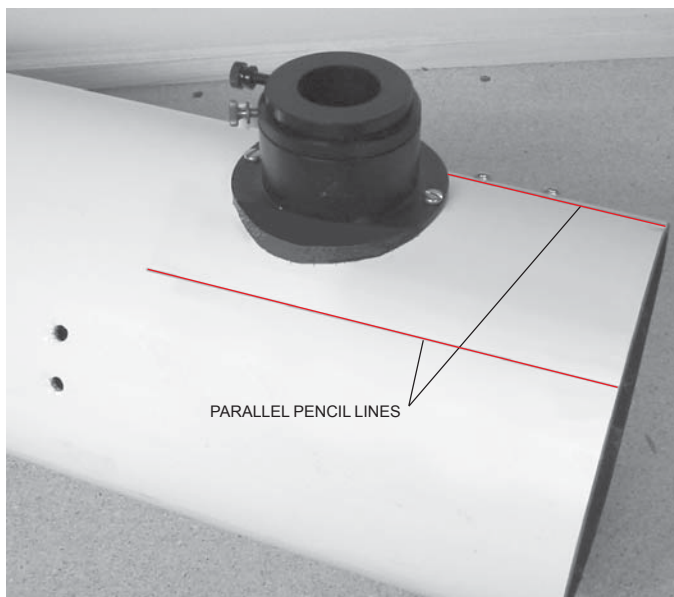

Figure 3
Step 2 **Mark the bracket centerlines on the tube.** Using a straight edge, draw two pencil lines down the outside of the tube starting at the marks you made in the previous step. The lines need to be long enough to go past the focuser base by an inch or two as shown in **Figure 3**.